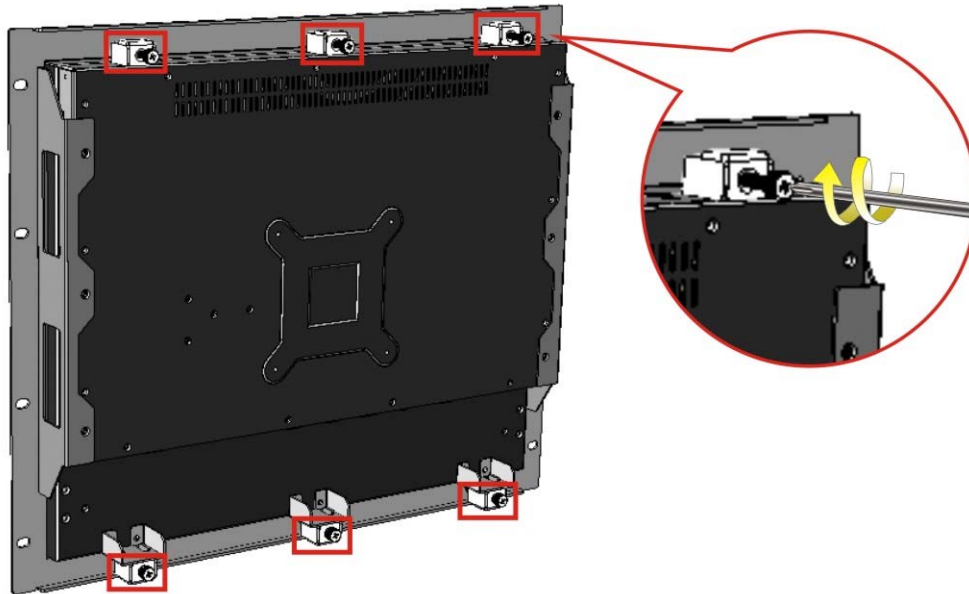

Figure 3-39: Secure the Rack/Cabinet Bracket
Step 4: Insert six mounting clamps into the mounting brackets and pre-formed holes along the top and bottom edges of the PPC-F19B-BTi, behind the aluminum frame (**Figure 3-39**).
Step 5: Tighten the screws that pass through the mounting clamps until the plastic caps at the front of all the screws are firmly secured to the bracket (**Figure 3-39**).